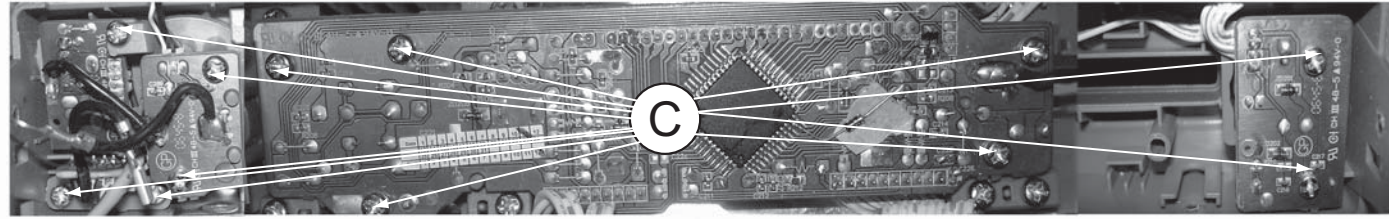

Figure 6
- 1) Loosen 12 screws "C" at the back pancele as shown in figure 6